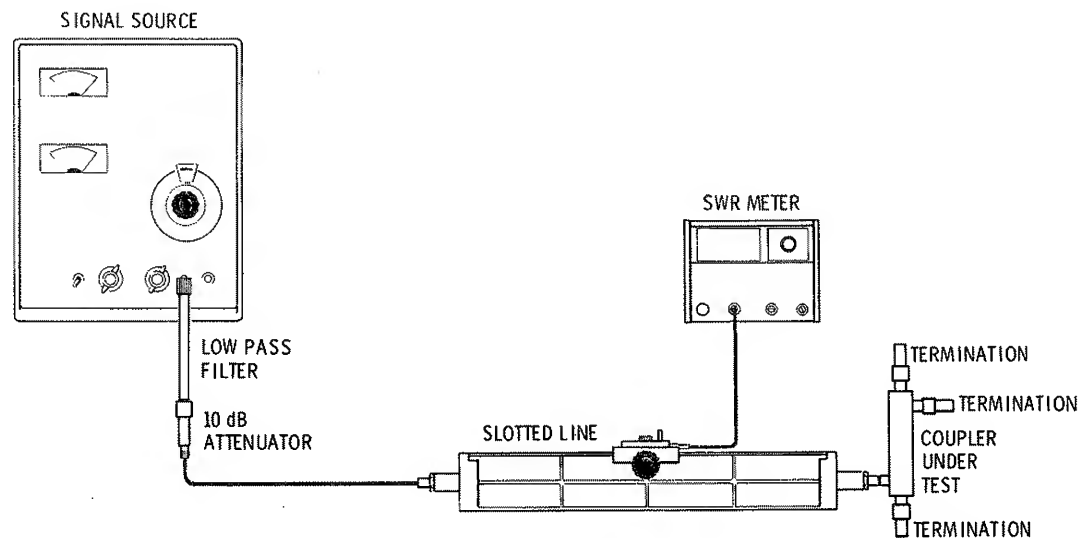

Figure 11. Fixed-Frequency Auxiliary-Arm SWR Test Setup
- a. Connect equipment as shown in Figure 11.